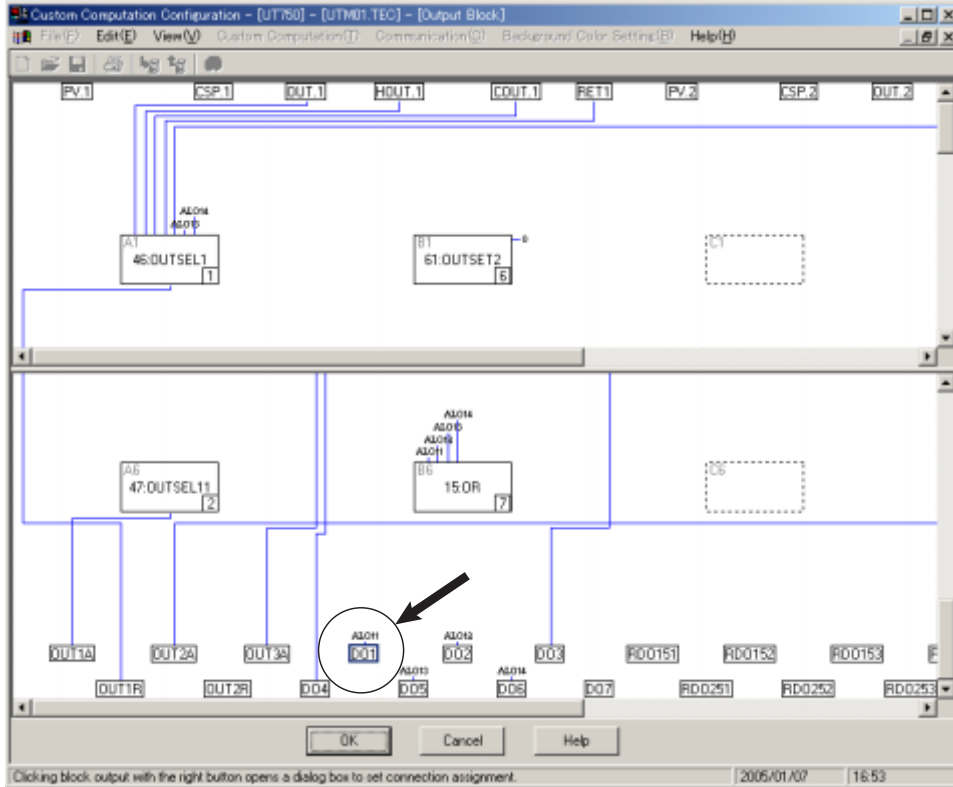

Figure 4.3.13 Output Signals Fed by the Output Block
- (1) In the [Output Block] dialog box (Figure 4.3.13), click the appropriate output signal. In this case (for example), click the <D01>.